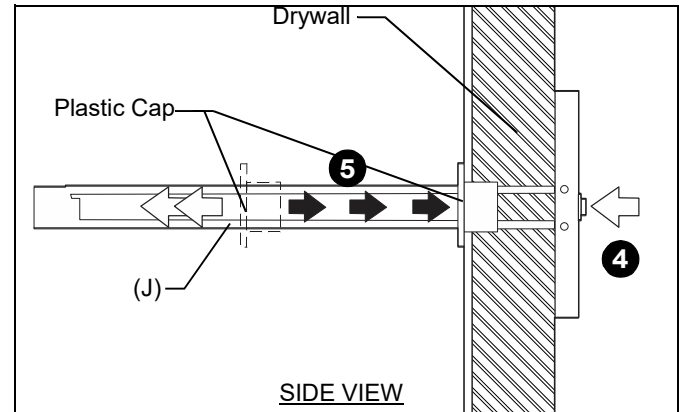

Figure 3
4. Holding plastic straps on anchor (J), pull anchor away from wall until channel rests flush behind wall. (See Figure 3)
5. Slide plastic cap on anchor (J) towards wall until flange of cap is flush with wall. (See Figure 3)